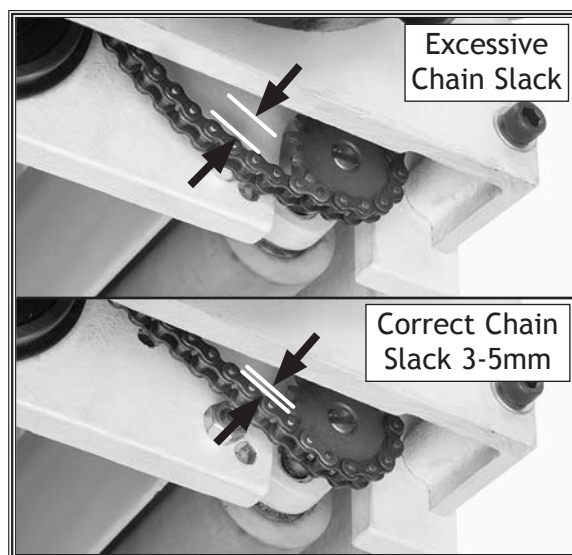

Figure 60. Chain slack examples.
When properly adjusted, keep in mind that the chain should not be in tension like a V-belt, but rather it should hang slightly with 3-5mm of hanging slack (see **Figure 60**), so the sprocket shafts are free floating with no chain tension against them.
4. Use a 4mm hex wrench to adjust the tensioner until there is 3-5mm of hanging slack in the chain (see **Figure 60**).